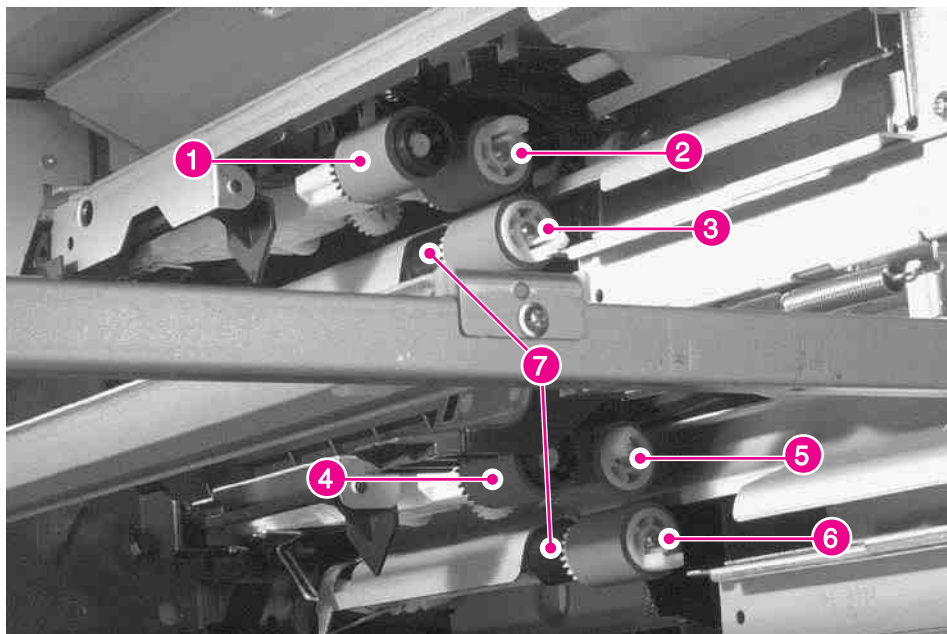

Figure 6-56 Tray 2 and 3, Pickup, Feed, and Separation Rollers
- Tray 2 Pickup Roller: figure 6-56, callout 1
- Tray 2 Feed Roller: figure 6-56, callout 2
- Tray 2 Separation Roller: figure 6-56, callout 3
- Tray 3 Pickup Roller: figure 6-56, callout 4
- Tray 3 Feed Roller: figure 6-56, callout 5
- Tray 3 Separation Roller: figure 6-56, callout 6
The Feed and Separation rollers have protruding tabs, and the pickup rollers have recessed retaining tabs. Be careful not to lose the plastic torque limiters located behind the Separation Rollers (figure 6-56, callout 7).